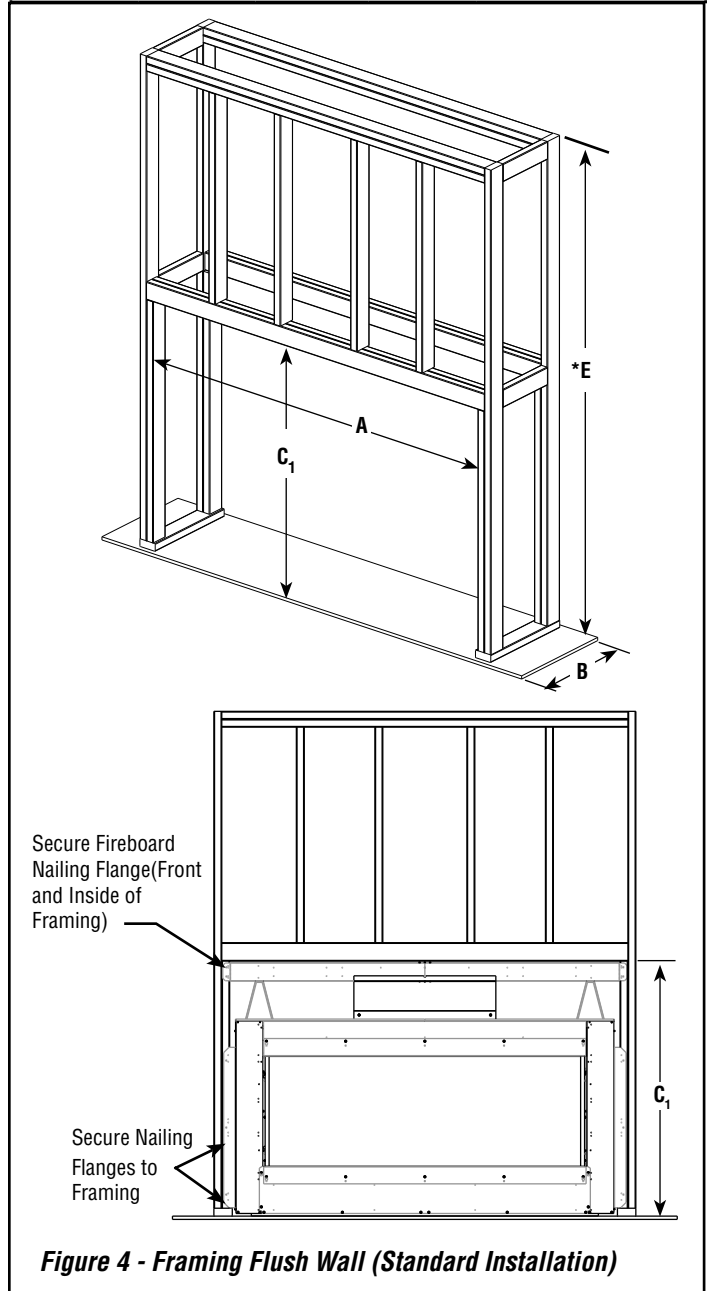
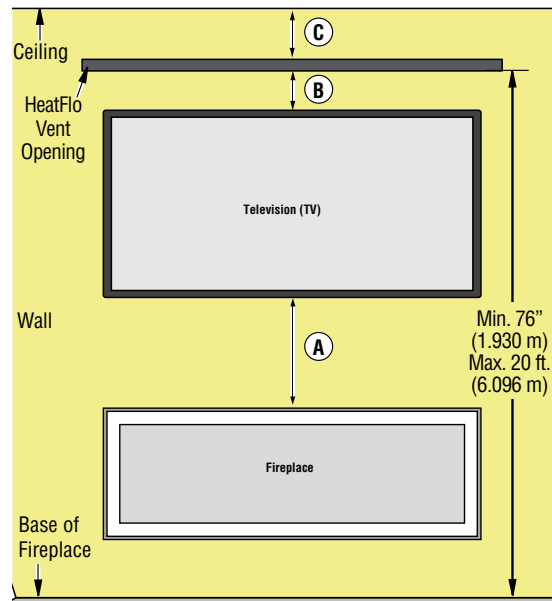
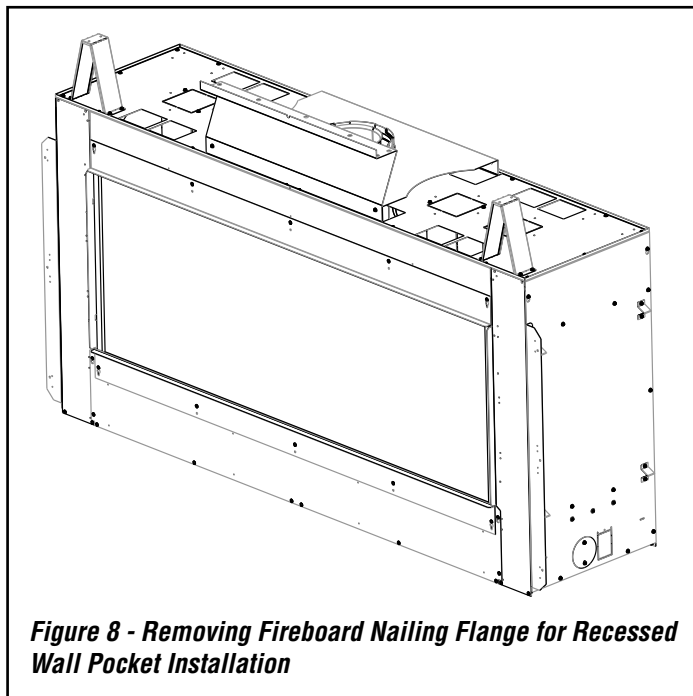
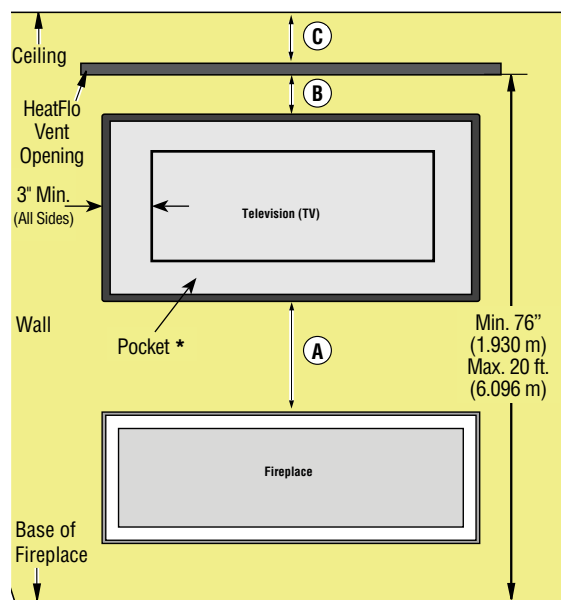

Figure 4 - Framing Flush Wall (Standard Installation)
Figure 6
Figure 8 - Removing Fireboard Nailing Flange for Recessed Wall Pocket Installation
Figure 9 - Dimensions for Television (TV) Installed Above Fireplace on a Recessed Wall Pocket
3. Headers may be in direct contact with the top of the nailing flange, maintaining the 11" clearance to the fireplace top, but must not be supported by them or notched to fit around them after self supporting (see **Figure 4**). All construction above the fireplace must be self-supporting. **DO NOT** use the fireplace for structural support. **NOTE:** On a recessed wall pocket installation, discard fireboard nailing flange leaving fireplace top spacers and heatshield (see **Figure 8, Page 16**). Header may be in direct contact with the fireplace top spacers and heatshield maintaining the 7-1/2" clearance to the fireplace top.
4. **Figure 4**, shows a typical framing of this fireplace. **Figure 6, Page 15** shows framing for HeatFlo kit installation. **Figure 9, Page 16** shows a recessed framing for HeatFlo kit installation. All minimum clearances must be met. Vent pipe needs to maintain 1" clearance. Wood studs may be notched. Fireboard is provided for facing around the fireplace.
NOTE: On a recessed wall pocket installation, discard fireboard nailing flange leaving fireplace top spacers and heatshield (see **Figure 8**). Header may be in direct contact with the fireplace top spacers and heatshield maintaining the 7-1/2" clearance to the fireplace top.
NOTE: Remove Fireboard Nailing Flange for recessed installation (**Figure 8**).